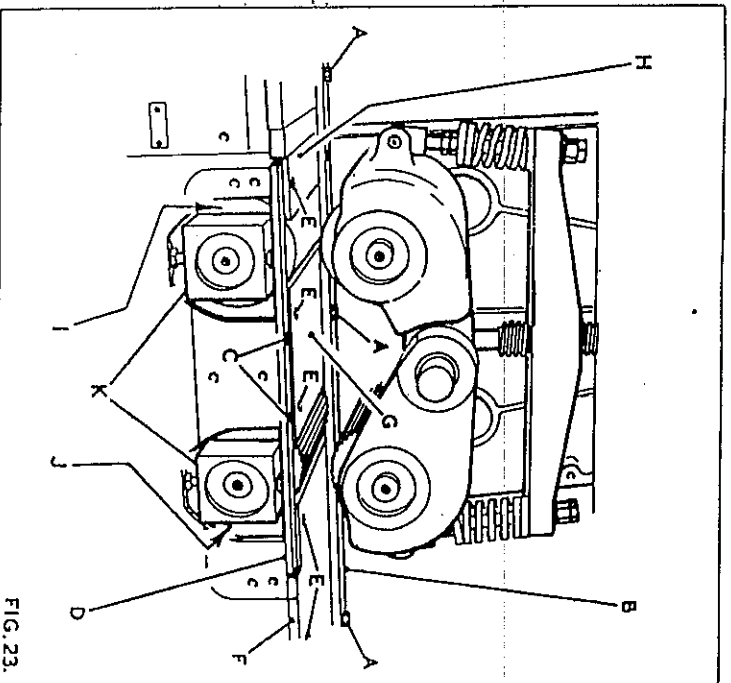

FIG. 23.
8. Proceed with bottom rollers by loosening hexagon head bolts "A" in Fig. 23 and removing infeed fence "B". Loosen socket head capscraws "C" and remove feed roller retaining bar "D" taking care not to lose two tension springs.